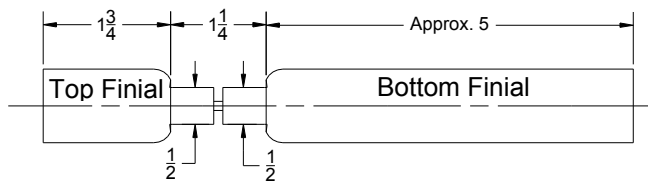

Figure 6: Rough Turning of Finials
- Using a parting tool, cut the tenon almost completely in half. See Figure 6.